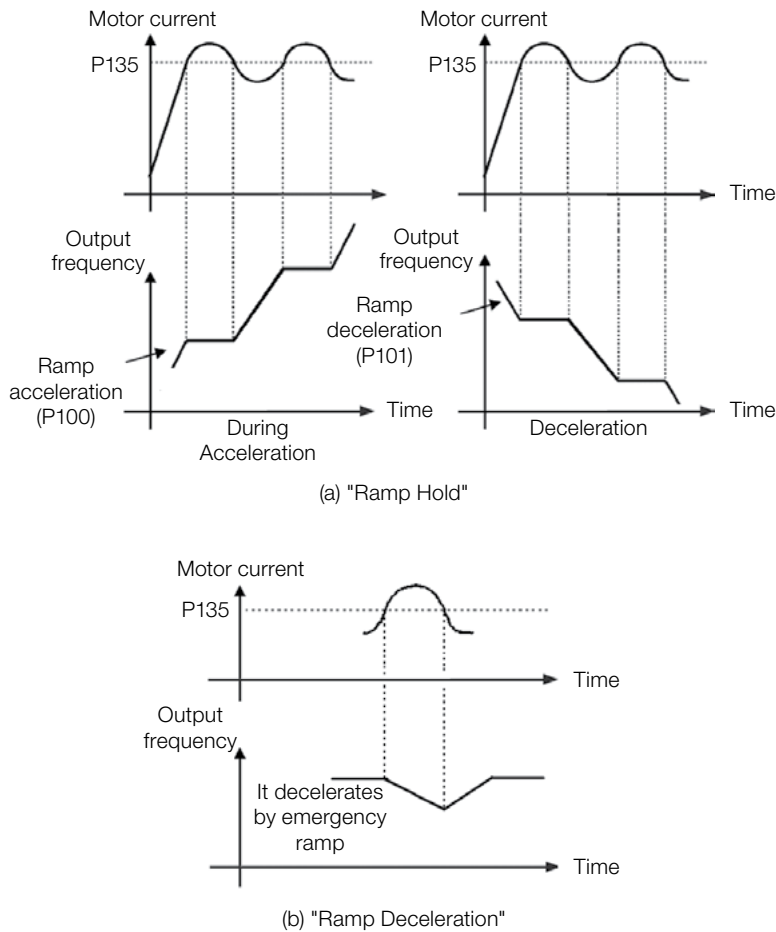

Figure 11.5: (a) and (b) Actuation modes of Current Limitation via P135
- Actuation: if the motor current exceeds the value set in P135 during acceleration or deceleration, the frequency will not be incremented (acceleration) or decremented (deceleration). When the motor current reaches a value below P135 the motor accelerates or decelerates again. Refer to Figure 11.5 on page 11-6;
- Actuation: if the motor current exceeds the value set in P135, a null value is forced for the frequency ramp input forcing the motor deceleration. When the motor current reaches a value below P135 the motor accelerates again. Look at Figure 11.5 on page 11-6.
Current level to activate the current limitation for the Ramp Hold and Decelerate Ramp modes, as per Figure 11.5 on page 11-6 (a) and (b), respectively. In order to disable the current limitation, you must set parameter $P135 > 1.9I_{nom}$.